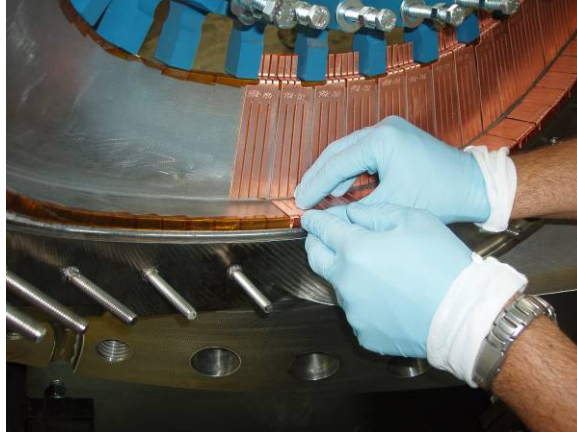

Figure 32-Positioning Horizontal Cladding
- Place the cladding into position and hold in place for 5 seconds. Then continue with remaining cladding pieces. [Figure 32-Positioning Horizontal Cladding]